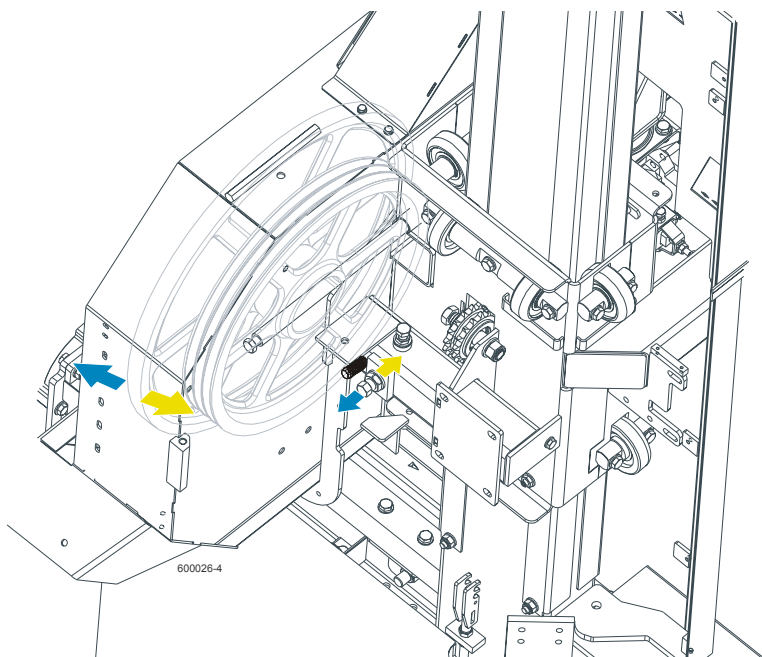

**FIG. 5-20**
**See Figure 5-20.** Use the cant control adjustment to adjust the idle-side blade wheel. If the blade is too far forward on the wheel, turn the cant control counterclockwise. If it is too far back on the wheel, turn the cant control clockwise.